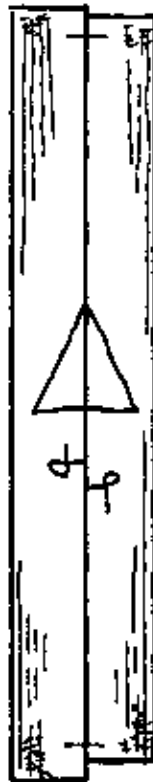

Fig. 3
– Now do the same thing for the vertical members. Put the inside edges together, mark the lengths and put the triangular sign, again pointing upwards (Fig. 3).